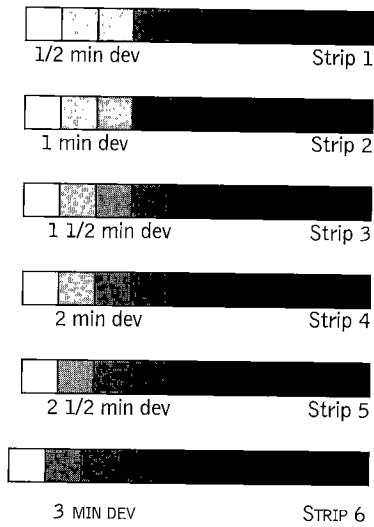

Fig 4-6. Development time assessment strips arranged for comparison
- Arrange strips on a viewing box, side by side, in numerical order, with all unexposed steps at the same end (see Fig 4-6).